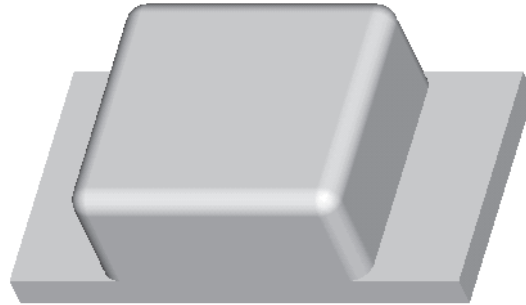

Figure 6-36 The default trimetric view of the base feature with round
- c. The second feature is a round of radius 5 on the top portion of the base feature, see Figure 6-36.
The round feature is completed. The default trimetric view of the round feature is shown in Figure 6-36.